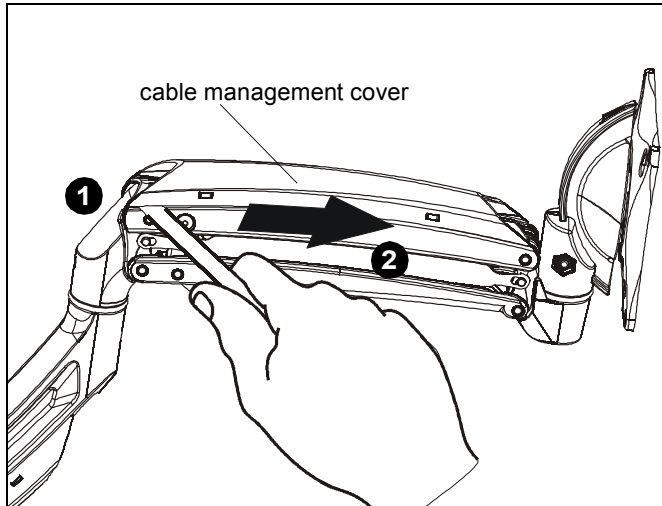

Figure 9
- Place four spacers (D) on top of mounting holes on back of display. (See Figure 9)
1. Use screwdriver to unhinge tab on either end of cable management cover on upper arm. (See Figure 9)
2. Slide screwdriver along edge of cover until remaining tabs are unhinged and cover is in the "open" position. (See Figure 9)